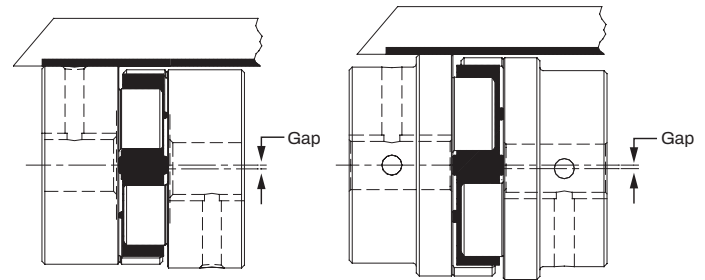

Figure 1 - Parallel Misalignment
5. Check parallel alignment by placing a straight edge across the two coupling hubs to measure the maximum offset. This measurement is performed at a minimum of four points, 90° apart, around the periphery of the coupling without rotating either hub. If the maximum offset exceeds the value in Table 2, realign the shafts. See Gap in coupling flanges as illustrated in Figure 1.
Maximum shown is for NBR, Urethane, and Hytrel spider elements. Maximum RPM for bronze spiders is 250 for all sizes. Angular misalignment is the difference between X min and X max. (Refer to Figure 1 and 2)